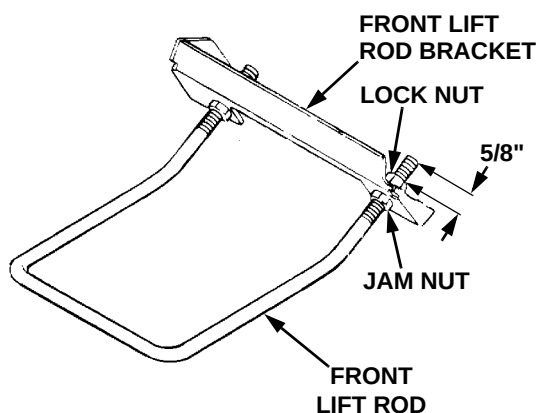

Figure 54
- If making the initial installation of the deck, adjust the front lift rod to allow 5/8 inch of thread to protrude beyond both lock nuts of the front lift rod/bracket assembly (Refer to Figure 54).
- To adjust the downward tilt of the blades, adjustment of the front lift rod is required. Refer to Figure 54 and proceed as follows: